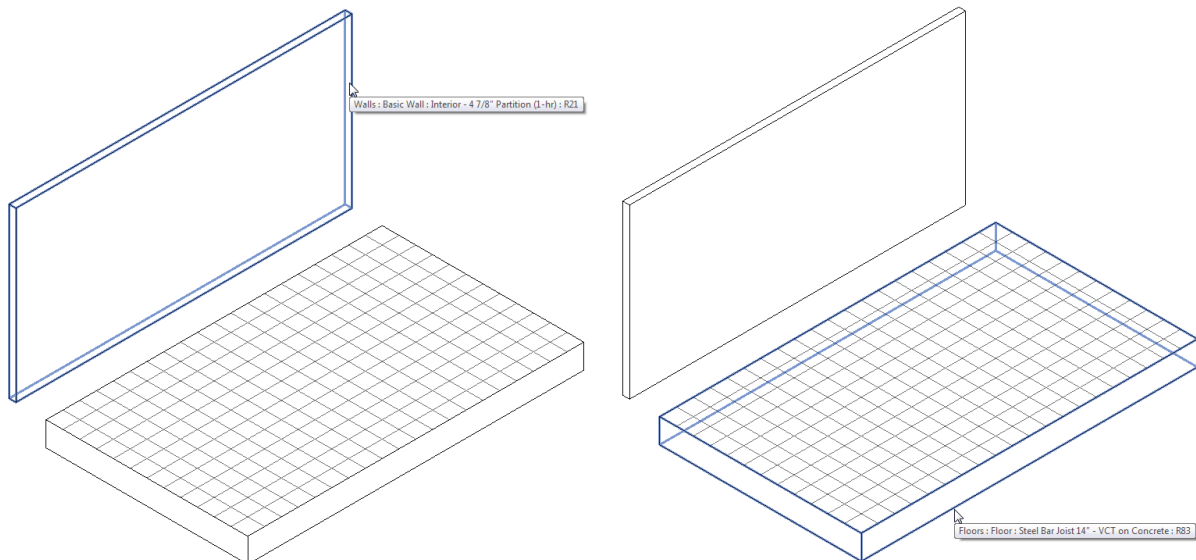

Figure 3
3. Open a default 3D view (see Figure 3).